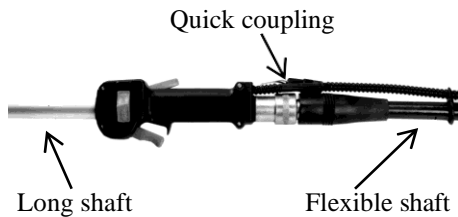

Fig. 7
**Rod-flexible shaft:** (Fig. 7). Connect the ends of the rod and the flexible shaft together using the quick coupling.